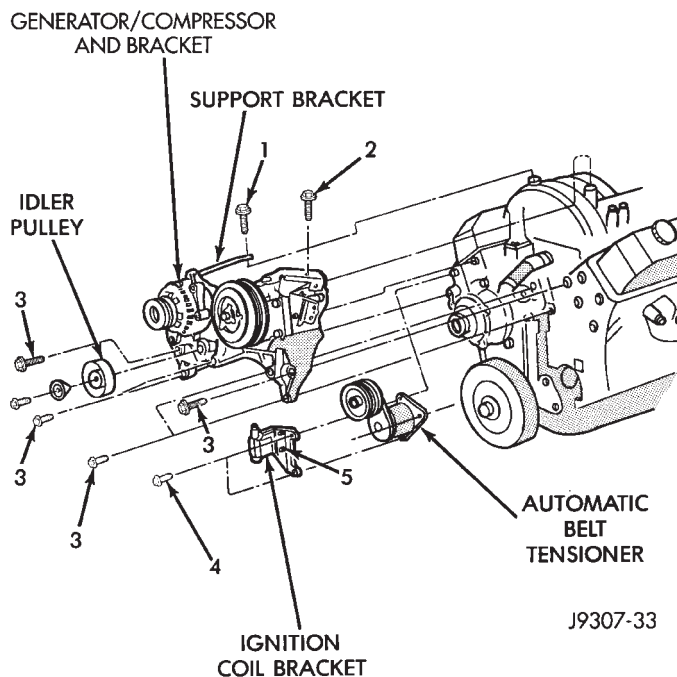

Fig. 38 Generator Support Bracket—5.2L/5.9L Engines
- (1) Disconnect negative battery cable at battery.
- (2) Drain cooling system until coolant level is below thermostat. Refer to Draining Cooling System in this group.
- (3) Air Conditioned vehicles: Remove support bracket (generator mounting bracket-to-intake manifold) located near rear of generator (Fig. 38).
- (b) Install support bracket (generator mounting bracket-to-intake manifold) (Fig. 38). Tighten bolts to 54 N·m (40 ft. lbs.) torque.